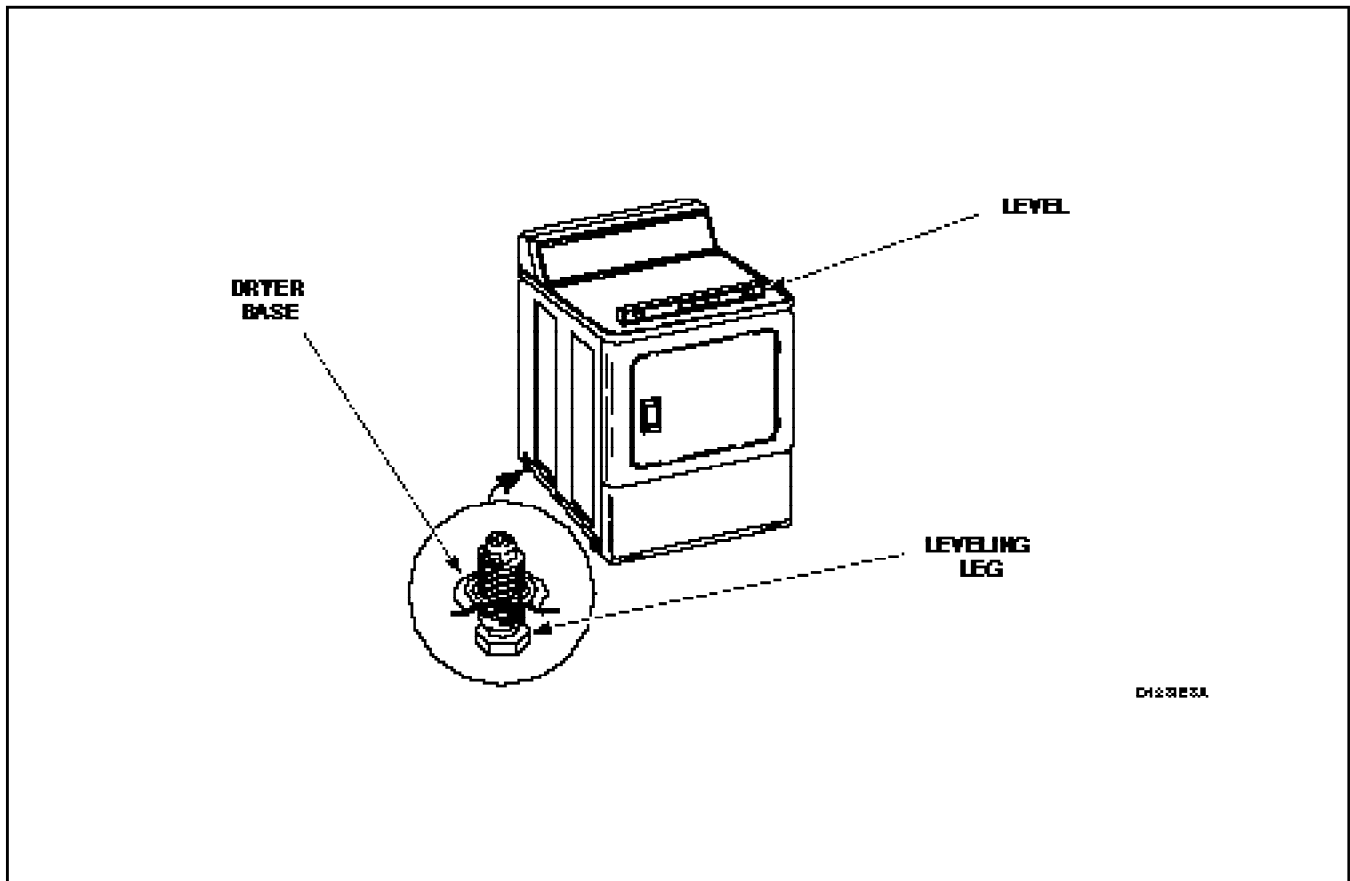

Figure 47
- q. Remove leveling legs from base and reinstall on new base, *Figure 47*.
46. LEVELING LEGS (Figure 47)